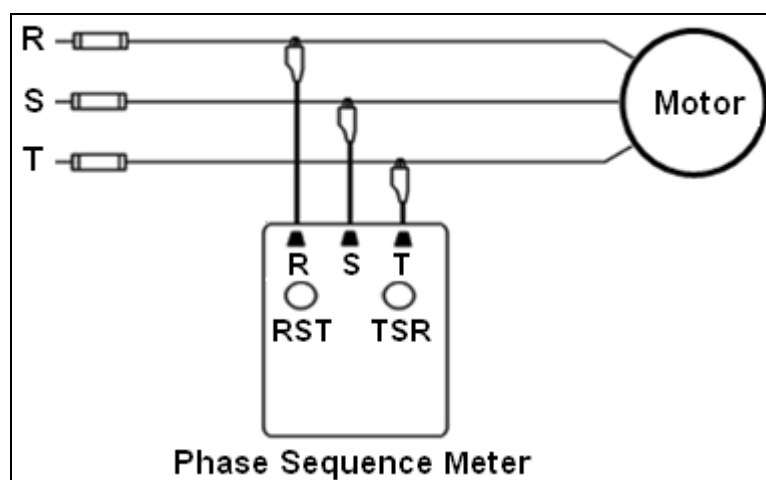

Fig. 3-1 Phase Sequence Meter
3. Detect open phase. The **R**, **S**, or **T** phase lamp glows to indicate an open phase, open test lead, or no contact of test clip (Fig. 3-1).